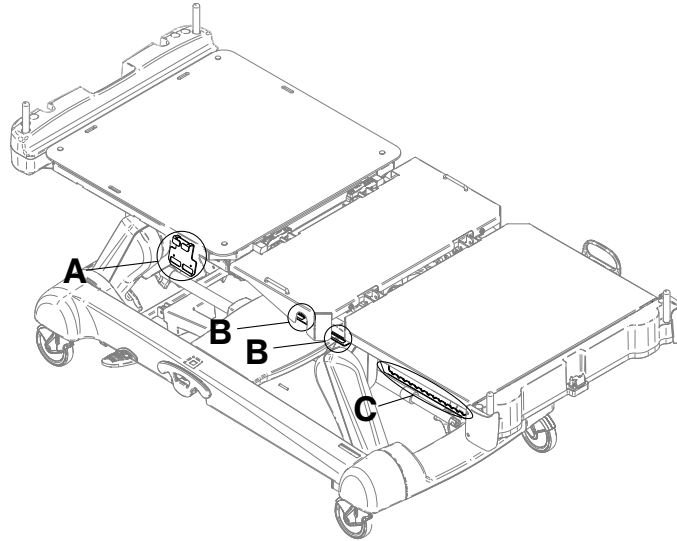

Figure 10: Foley bag hooks
There are two isolated foley bag hooks under the seat section (B) on both sides of the product (Figure 10 on page 25). If you weigh the patient with the scale system, the isolated foley bag weight is not included with the patient weight.
There are four foley bag hooks under the fowler section (A) and foot section (C) on both sides of the product (Figure 10 on page 25). If you weigh the patient with the scale system, the foley bag weight is included with the patient weight.